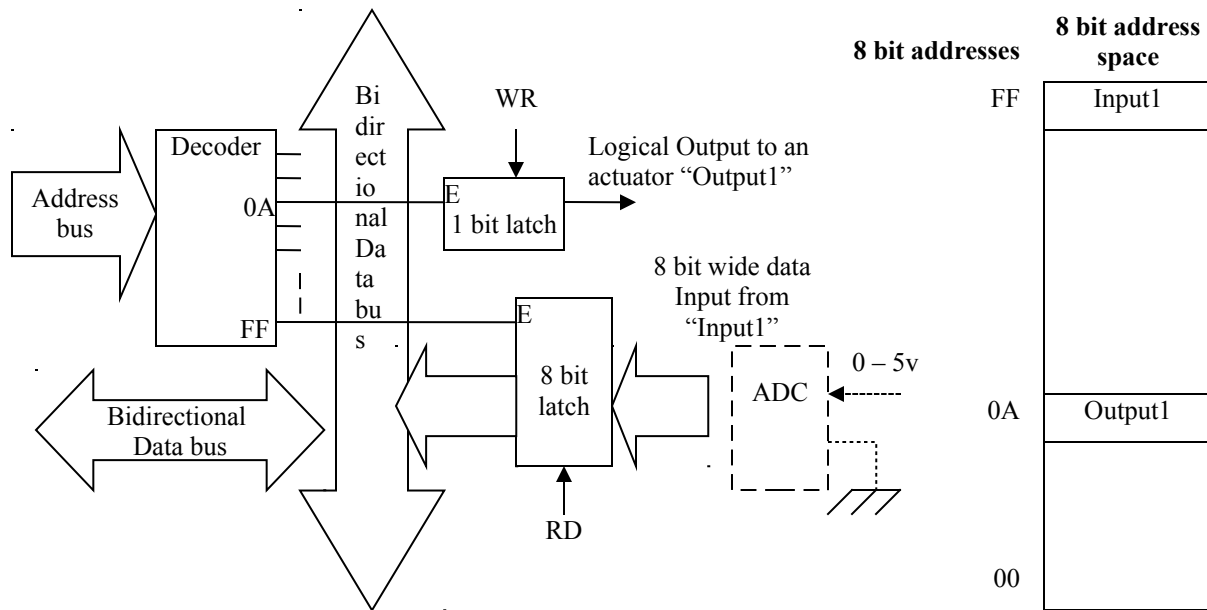

Fig. 5: System architecture for addressable IO and 8 bit address space representation
6. A reference design for an addressable IO system is given below (Fig 5). Correlate this with the figures given in 8088 CPU data sheet. Only one logical output and analog input are shown.
11. About relationship between "C" code and timing diagram (using hardware as in Fig. 5) -